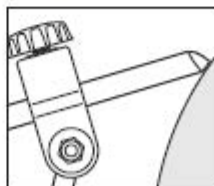
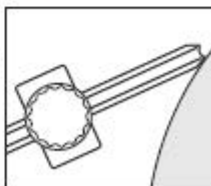

Fig 5
Fig 6
5. To sharpen the tool, locate the shaft (E) in the recess of the support arm mount and carefully apply the tool to the wheel, see Fig 5, ensuring contact is kept whilst pivoting the shaft to sharpen all the way round the edge. See Fig 6.